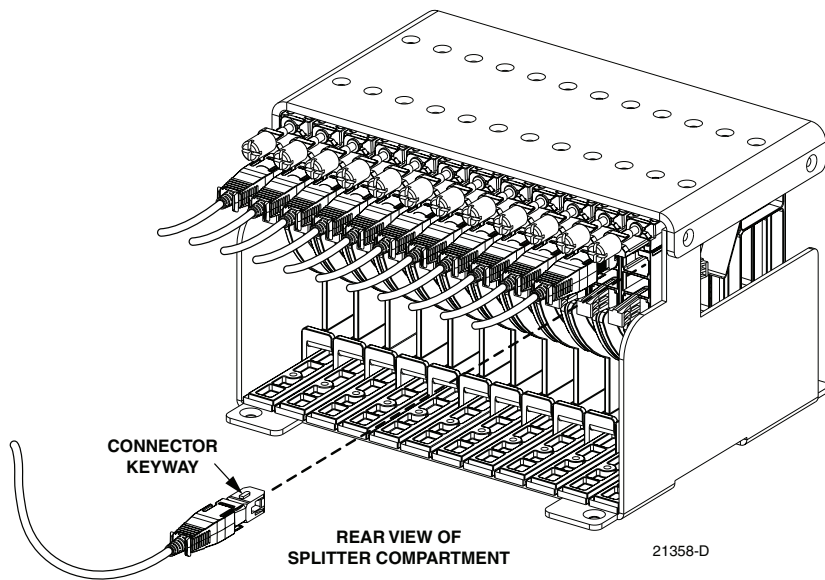

Figure 20. Feeder Cable Connector
8. Insert the feeder fiber connector into the appropriate bulkhead adapter (remove dust cap from adapter) at the rear of the splitter compartment as shown in Figure 20.